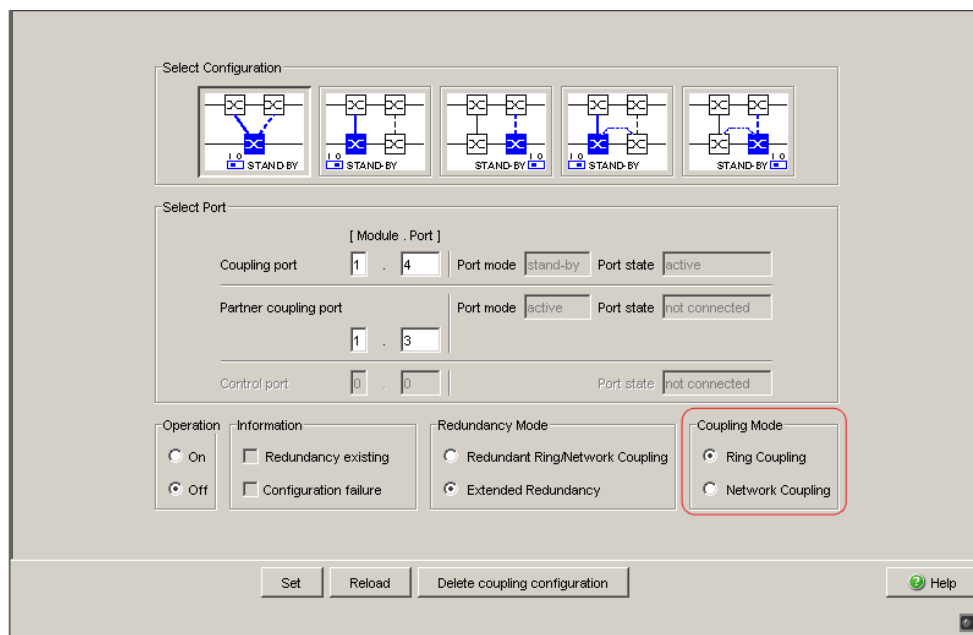

Figure 28: Selecting the coupling mode
□ In the “Coupling Mode” frame, select (see fig. 28)